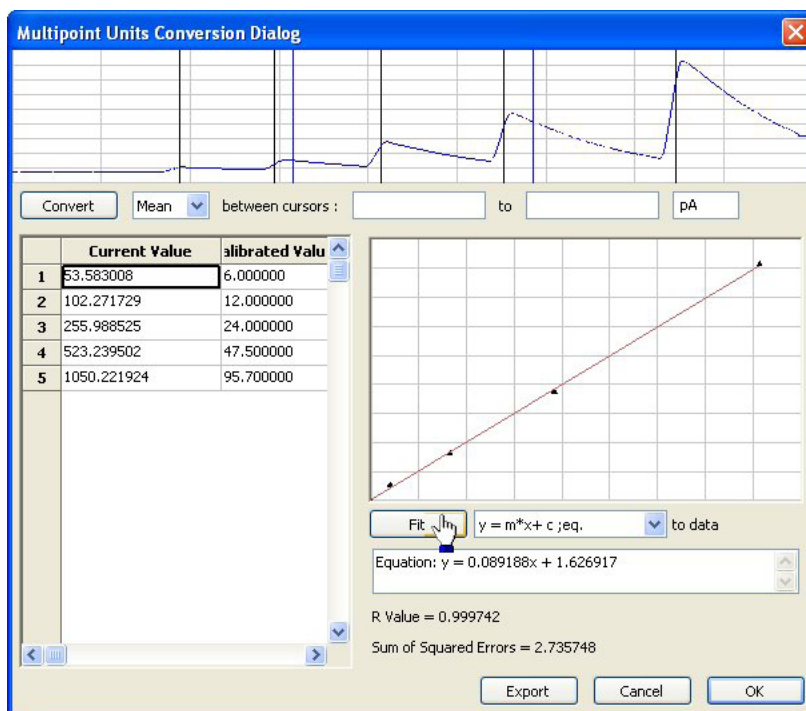

Fig. 46—Multipoint Units Conversion dialog box, with graph
10. After all the values have been entered, click the **Fit** button to generate the linear regression equation and its R value. The calculated conversion graph then appears on the right side of the dialog box, and the equation and R value are printed below it. The closer the R value is to one, the greater the accuracy of the calibration (Fig. 46).
11. If desired, export the equation to a text file by pressing the **Export** key (Fig. 46).
- Click the **OK** button. A new comparison channel displays at the bottom of the main LabScribe window. When applied to the raw data in Figure 46, a typical Hamming filter generates a less noisy output trace similar to the raw data in channel (Fig. 49).